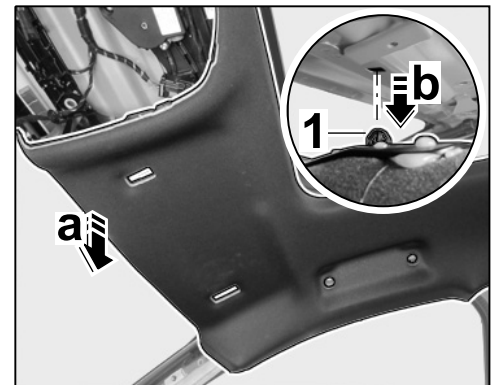

Figure 6
- 2.5.7 Carefully pull front roof trim panel down as far as required (⇒ *Figure 6* -**arrow a**-) until the clip is no longer fitted in position (roof) (⇒ *Figure 6* -**arrow b**-).